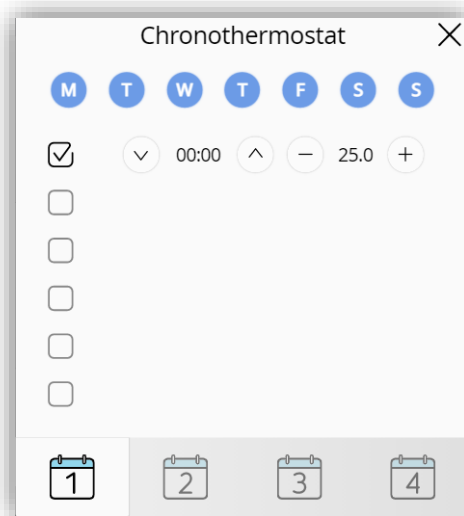

Figure 121. Chronothermostat panel
- **Minimum Setpoint Value** [-99 ... 18 ... 199] [°C]: minimum setpoint value that the user can be set on the chronothermostat panel (see Figure 121).
- **Maximum Setpoint Value** [-99 ... 30 ... 199] [°C]: maximum setpoint value that the user can be set on the chronothermostat panel (see Figure 121).